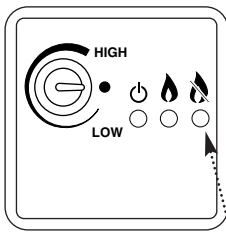

Fig. 7
2. The lockout indicator light will be either flashing or permanently illuminated and the boiler will need resetting (Fig. 7).